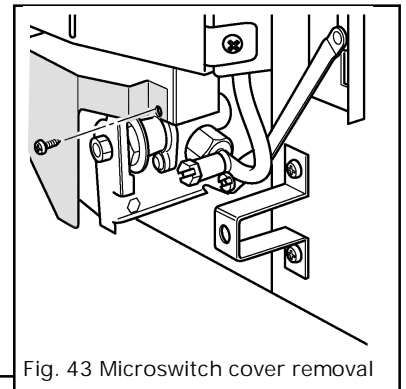

Fig. 43 Microswitch cover removal
See figures 43 & 44.
**13.1.2** Detach the microswitch cover by removing one screw and pulling clear of the location lug (see figure 43).
See figures 43, 44 & 45.
**13.2.2** Detach the microswitch cover by removing one screw and pulling clear of the location lug (see figure 43).